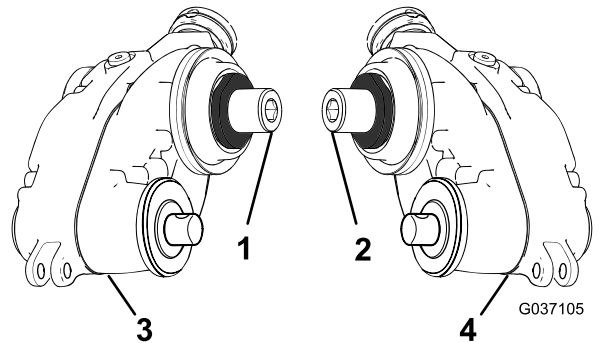

Figure 7
1. Identify the left-drive groomer drive boxes and the right-drive groomer drive boxes; refer to Figure 7.